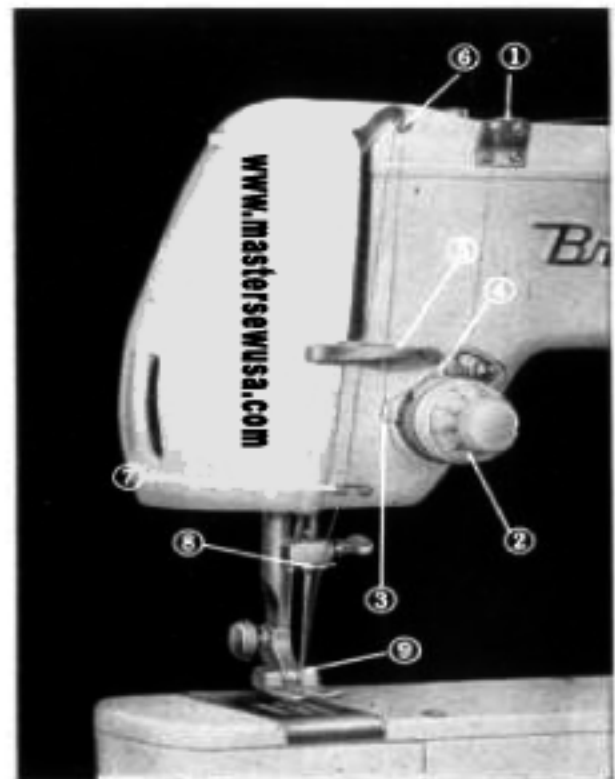

Fig. 10
1. Turn the balance wheel (22) by hand towards you until the take-up lever (6) is at its highest point, Fig. 10.
2. Place the spool of thread on the spool pin (20) on the top of the machine and pass the thread through the upper guide (1) and down between the tension discs (2) from the back on the right hand side, Fig. 10.
3. Now bring the thread up and under the thread check spring (3) raising it (the check spring) so that the thread will fall into the hook shaped guide (4).
4. Carry the thread under the thread guard bar (5) from right to left and then up to and into the eye of the thread take-up lever (6) from right to left and down through the thread guides (7) and (8).
5. Now thread the needle (9) from the front to back and draw the thread out about 6 inches.